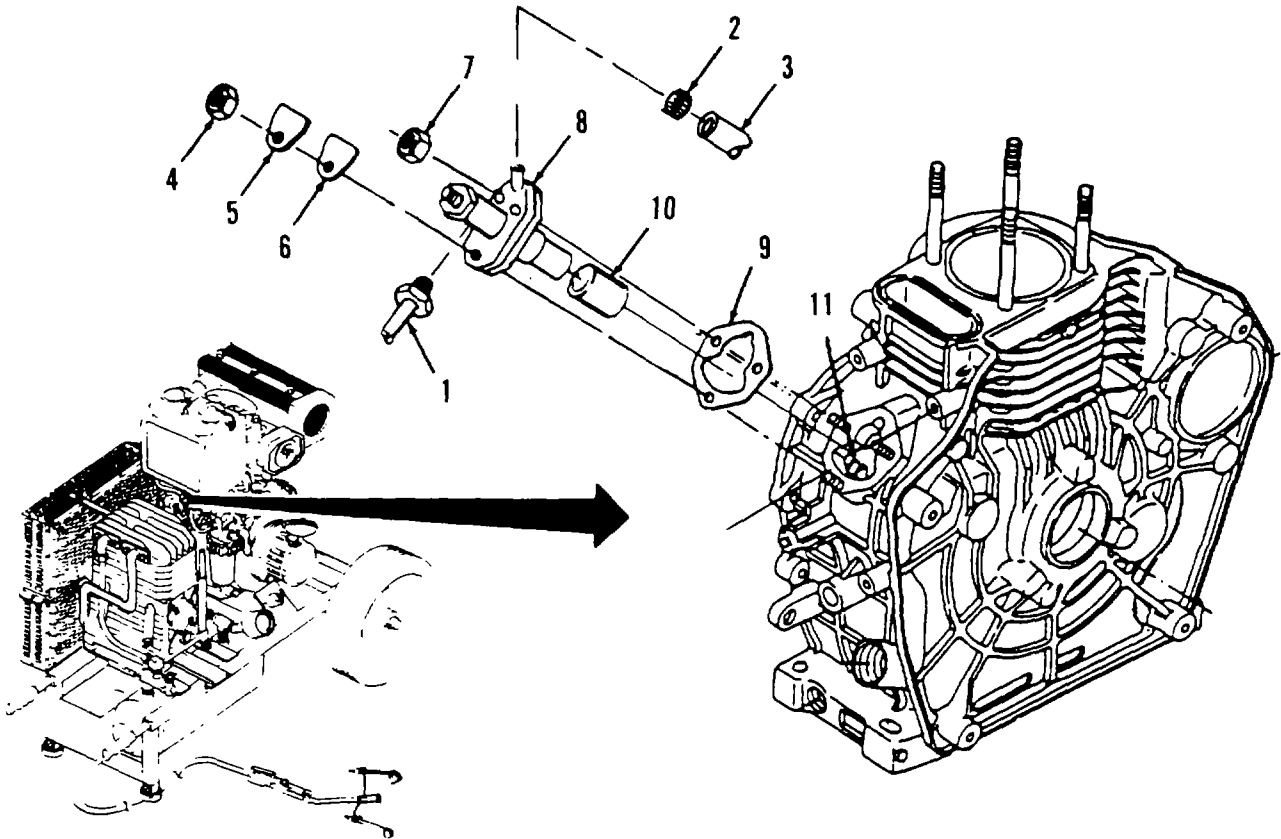

Figure 5-2. Fuel Injector Pump Repair and Replacement.
a. Removal. (Refer to Figure 5-2).
(1) Disconnect fuel injector pipe (1), clamp (2), and fuel line (3) from fuel injector pump.
(2) Remove hex nut (4) securing pump viewing access plate (5) and gasket (6). Discard gasket.
(3) Remove two hex nuts (7) securing fuel injection pump (8), and remove pump together with base mounting plate.
- (4) Refer to Figure 5-2. Position two metal shims (9) and carefully insert fuel injection pump (8) onto the studs, making sure the speed control lever engages into governor yoke (11).
- (5) Secure fuel injection pump onto studs using two nuts (7).
- (6) Attach pump viewing access plate (5) and new gasket (6) with one hex nut (4).
- (7) Attach fuel line hose (3), clamp (2), and fuel injection pipe (1) to fuel injection pump (8).